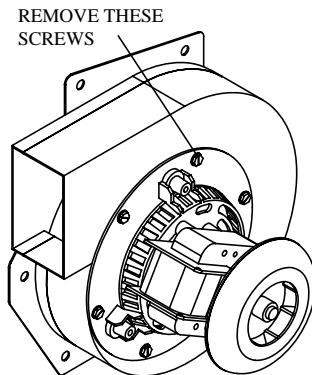

Figure 22. Exhaust fan assembly.
3. Clean the exhaust fan and housing. Ash accumulation on the fan blades will reduce the life of your exhaust fan. Frequent cleaning will help extend the life of this component. Open the left side panel to access the exhaust fan. Using a Common (flat head) screw driver, remove the 6 sheet metal screws holding the fan motor to the housing (See Figure 22). Using a brush, clean all ash from the exhaust fan blades and housing.